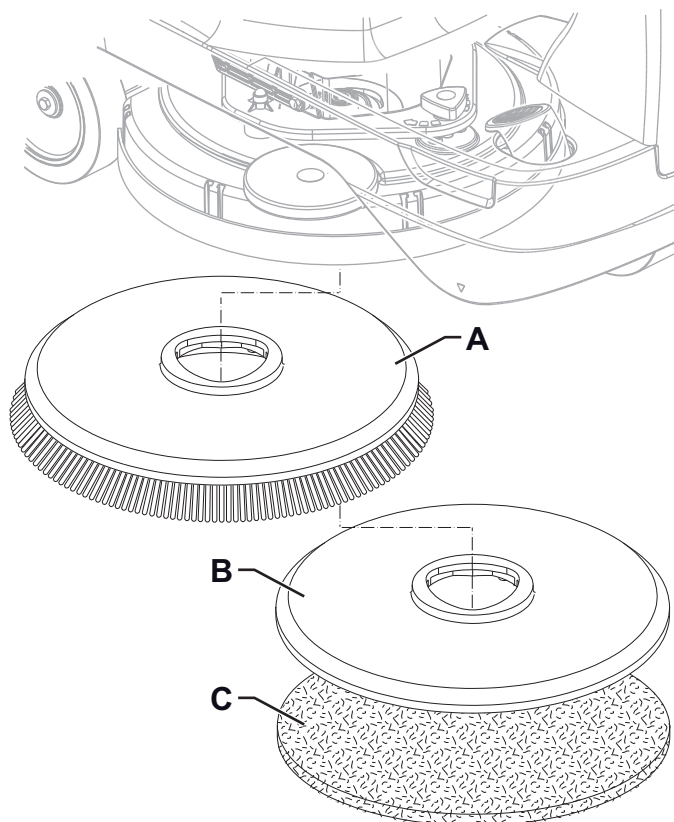

Figure 2
According to the kind of cleaning to be performed, the machine can be equipped either with the brush (A, Fig. 2) or the pad-holder (B) with pad (C) together with the appropriate deck.
1. Place the brush (A) or the pad-holder (B) under the deck (7).
2. Place the user key (52) in the key reader (41), then press the push-button (42) to start the machine.
3. Press the One-Touch button (43) to lower the deck onto the brush.
4. Press the switch (45) to engage the brush.
5. To remove the brush, the deck must be lifted by pressing the One-Touch push-button (43), then press the release push-button (45).